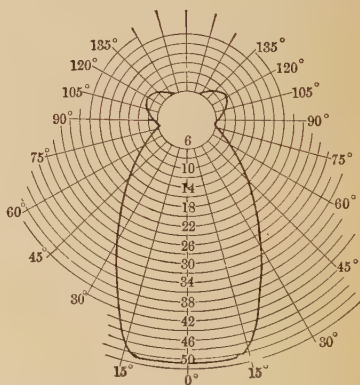

FIG. 384.—Vertical distribution, when fitted with shade.
When it is desirable to throw as much light as possible directly downward, some kind of a reflector or shade is used. Figure 384 shows the vertical distribution of light when the bulb is fitted with a special shade. From this curve it will be seen that the horizontal intensity is cut down to 6 candles, while the downward intensity runs over 50 candles. Such shades, made in a great variety of forms to give different desirable distributions, make it possible to work out scientifically the problem of lighting a given room or work shop efficiently.
8. If the lamp with the special shade described in section 415 were hung above a reading table, how high should it be hung? (See curve of distribution, Fig. 384.)